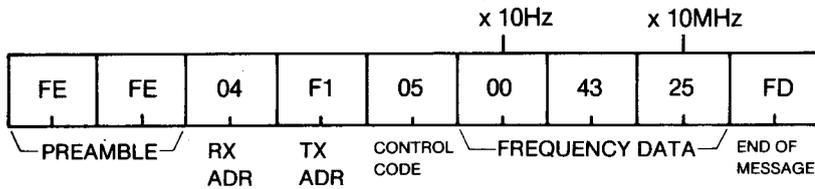

Fig. 20
- (3) If the frequency data sent does not include all digits, then those digits not sent remain at the previous values. See Figs. 20 and 21.